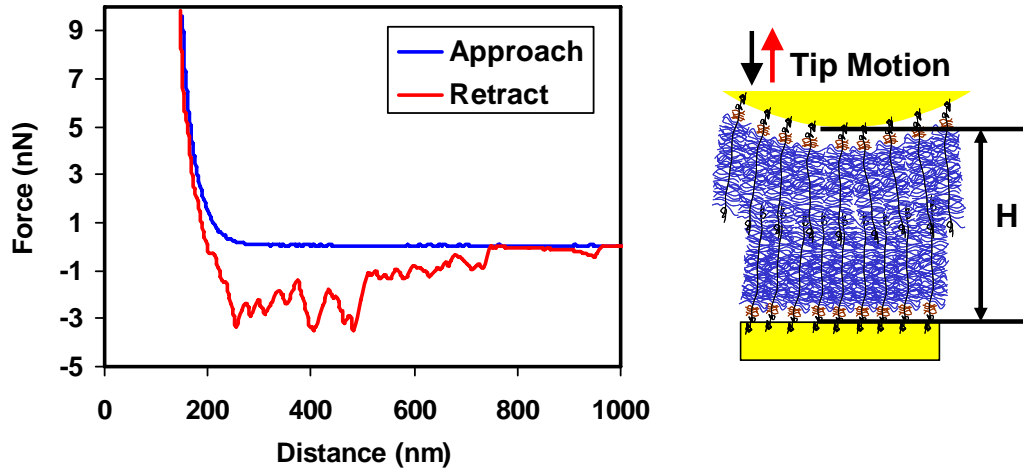

Figure 1. High resolution force spectroscopy experiment; aggrecan vs. aggrecan.
2. Aggrecan is a very unique "bottle-brush" macromolecule that is largely responsible for the mechanical properties and health of cartilage tissue in our joints (later on in the semester you will hear a podcast with Professor Alan Grodzinsky on this topic). Aggrecan is composed of highly negatively charged polysaccharides called glycosaminoglycans or GAGs (contour length ~ 40 nm) as side chains that are densely packed along a core protein (contour length ~ 400 nm). Aggrecan was chemically end-attached to a planar substrate and a micron-sized probe tip at the end of a microfabricated cantilever at a packing density of 25 nm × 25 nm square per aggrecan molecule. A high resolution force spectroscopy experiment was then carried out where the surfaces were compressed and held for a period of time between the approach and retract curves (*Figure 1* - real data taken in the month!). The uncompressed and compressed height H of the two aggrecan layers are 409 nm and 150 nm, respectively.